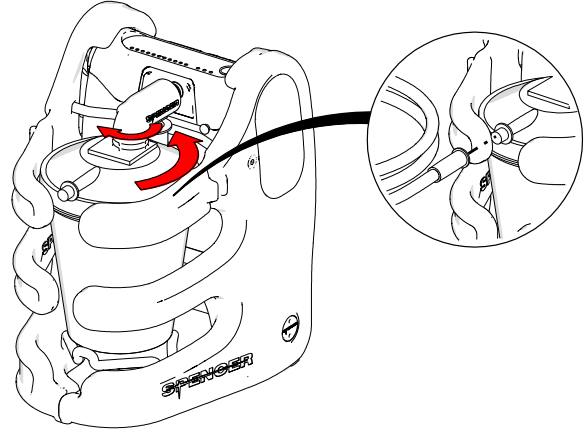

Fig. 8
3. Connect the patient tubing (n°17 paragraph 3.2) to the plug of the canister in the door marked with the words "Patient". Verify that all connections are tight to prevent leakage of liquids and depression (Fig. 8).